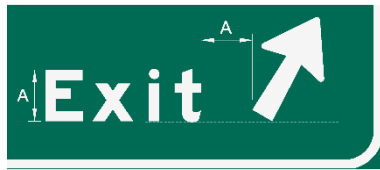
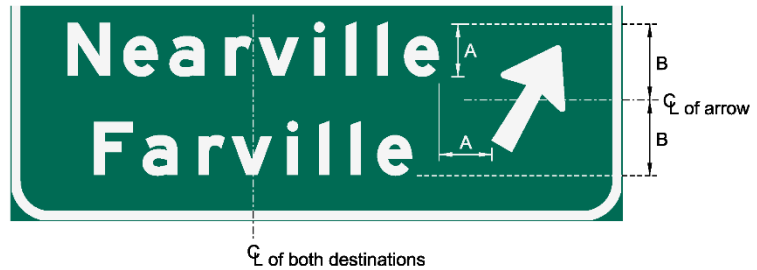

Figure A12
Figure A13
the destination. On exit direction signs with a single destination, the bottom of the arrow shall align vertically with the bottom of the destination text. See Figure A12. On exit direction signs with two destinations, the arrow shall align vertically with the center of both destinations. See Figure A13.
18. On exit direction signs, a single shield or a single shield with cardinal to the right shall be centered horizontally within the sign area. On exit direction signs with two destinations, the shorter length destination shall be centered horizontally with the longer length destination. See Figure A13.